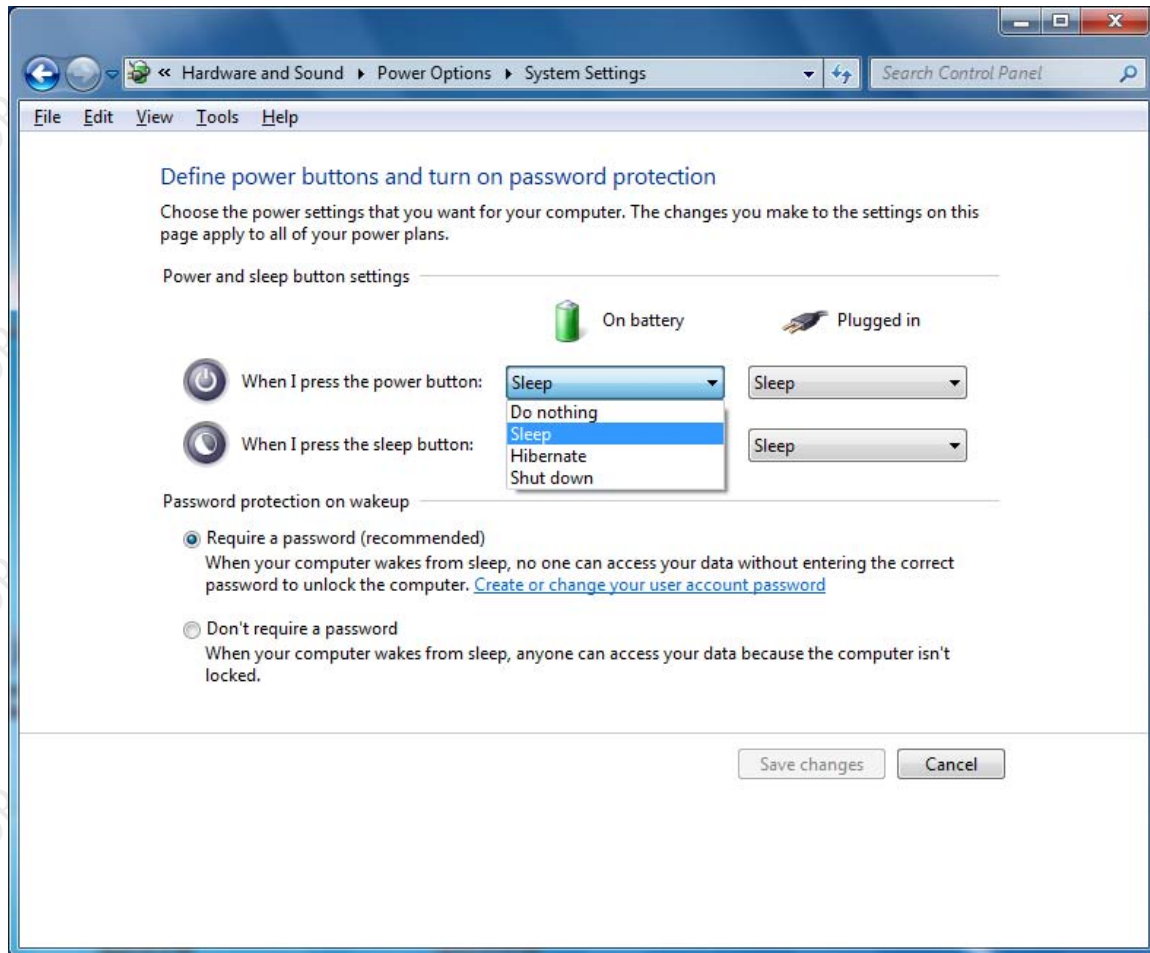

Figure 74. Power Button Settings Options
Before you can activate and use your WWAN radio, a valid SIM card from your network service provider needs to be installed. The SIM card is installed in a socket located inside the rear compartment, as shown in Figure 74.
4.	Carefully pry up the register at the slot provided (Figure 74) and remove.